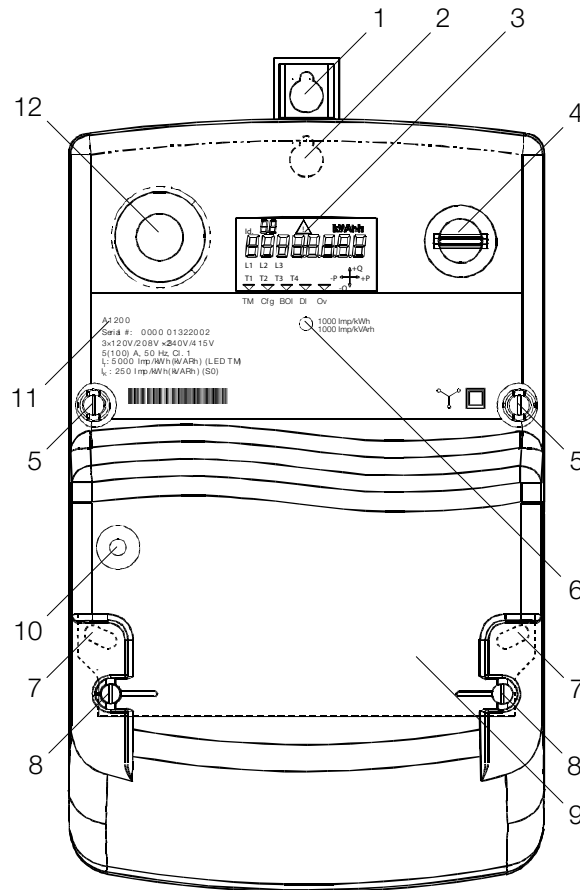

Figure 1. A1200 ALPHA meter (A1000 ALPHA meter is similar)
- ◆ One screw engages the meter hanger (1 or 2 in Figure 1) at the top of the meter.
- ◆ The two bottom supporting screws are positioned on both sides of the meter terminal block (7 in Figure 1).
- 3 Set the mounting height of the meter so that the LCD (3 in Figure 1) is at (or slightly above) average eye level. This is the optimal viewing position for the LCD.
- 1 Make sure that the meter hanger (1 in Figure 1) is in the desired position. Sliding the hanger down to the hidden position (2 in Figure 1) will hide the top supporting screw.
- 3 Use at least an M6 screw in each of the bottom supporting screw positions (7 in Figure 1) to secure the A1200 ALPHA meter; the bottom supporting screw slots are 6.0mm wide.
- 9 Install and seal the wiring cover (9 in Figure 1). Seal at least one of the wiring cover screws (8 in Figure 1).